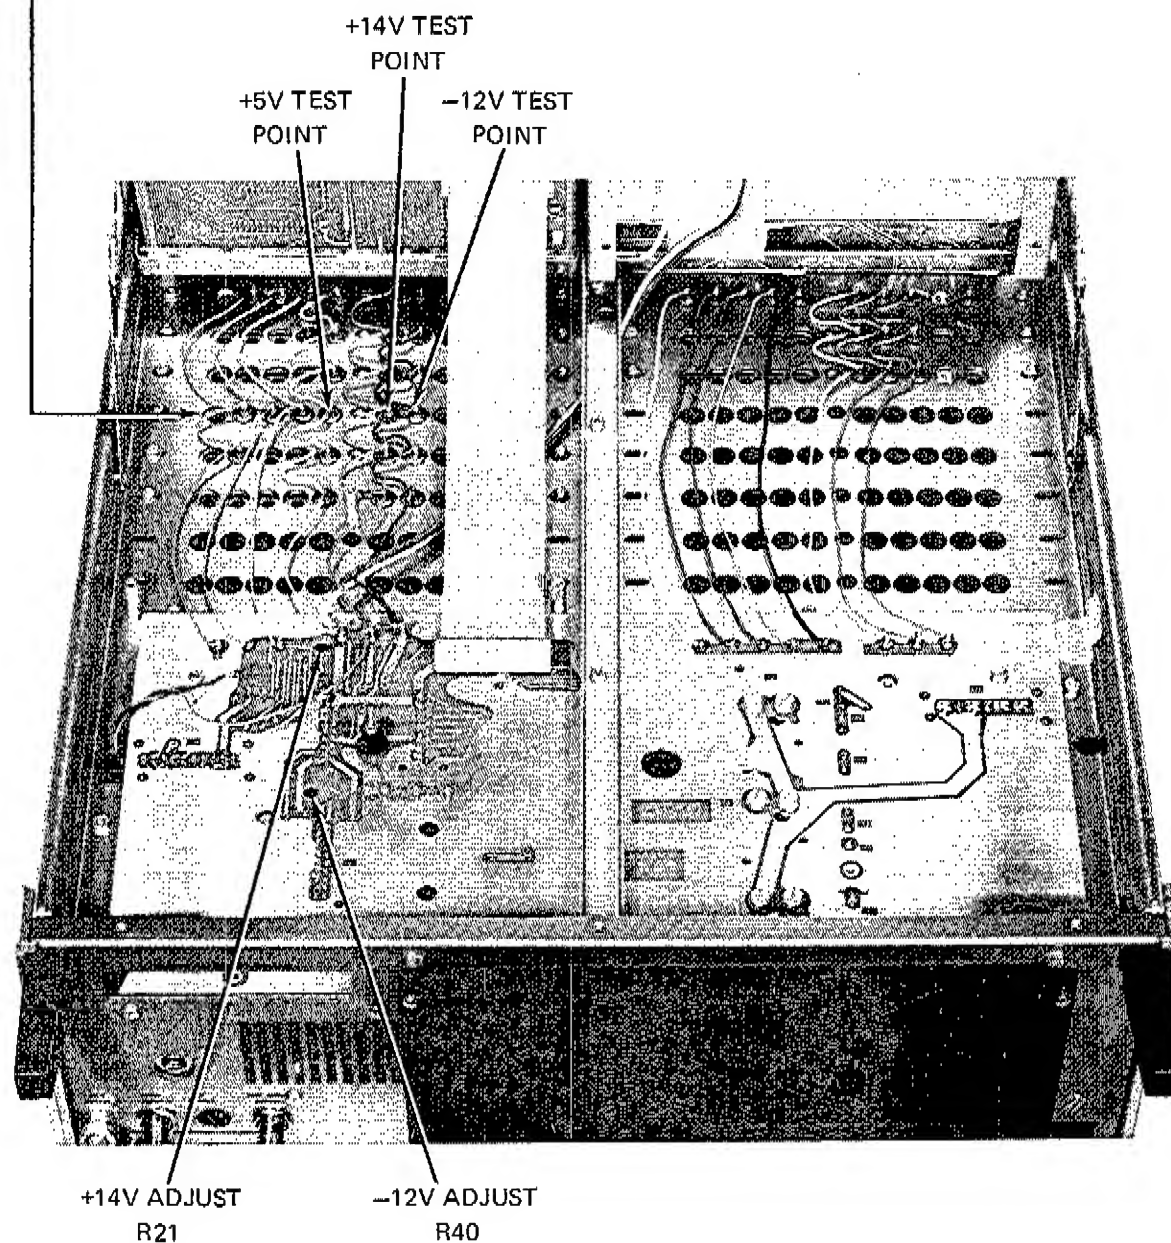

Figure 4-3. POWER SUPPLY TEST POINTS AND ADJUSTMENTS.
- Refer to Figure 4-3 and connect DVM between synthesizer chassis and –12V connector on the 10 MHz Step Loop module, 6160A-4107-1. DVM should indicate –12 Vdc \pm 3 mV. Adjust R40 if necessary (See Figure 4-3 for location).
- Refer to Figure 4-3 and connect DVM between chassis and +14V connector on 10 MHz Step Loop module, 6160A-4107-1. DVM should indicate +14 Vdc \pm 3 mV. Adjust R21 if necessary (See Figure 4-3 for location).
- Refer to Figure 4-3 and connect DVM between chassis and +5V connector on 10 MHz Step Loop module, 6160A-4107-1. Check DVM indication to be +5 Vdc \pm 15 mV.